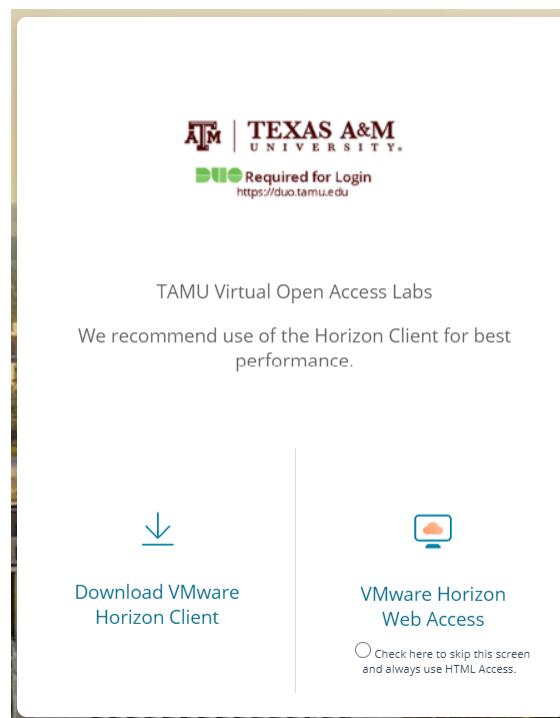

Figure 1: TAMU VOAL web page
- Click on "VMware Horizon Web Access" and login using your TAMU NetID and password (Fig. 1)
- Alternatively, you can download and install VMware Horizon Client (see Fig. 1) to your PC, but you will still need internet connection to run MultiSim.